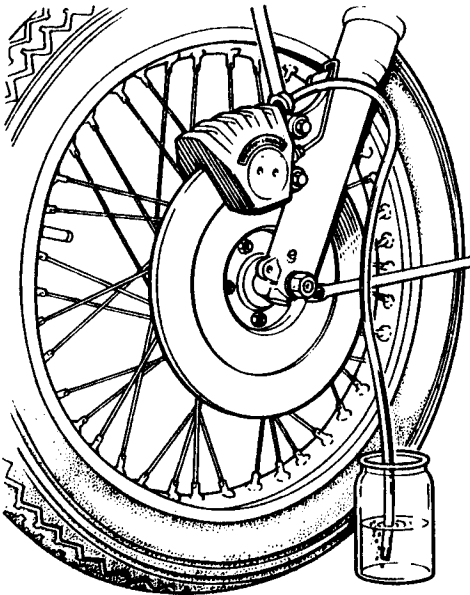

Fig. H8 Bleeding disc brake hydraulic system
- 13 Slacken the bleed nipple one full turn and connect with a suitable bleed tube to a clean container (see Fig. H8).
- 2 Attach a suitable length of clean rubber or plastic tubing to the bleeder screw of the hydraulic unit, and allow the other end of the tube to be submerged in a small quantity of new fluid contained in a glass jar. Open the bleeder screw half a complete turn (*Fig. H8*). The procedure is the same for both front and rear brakes.